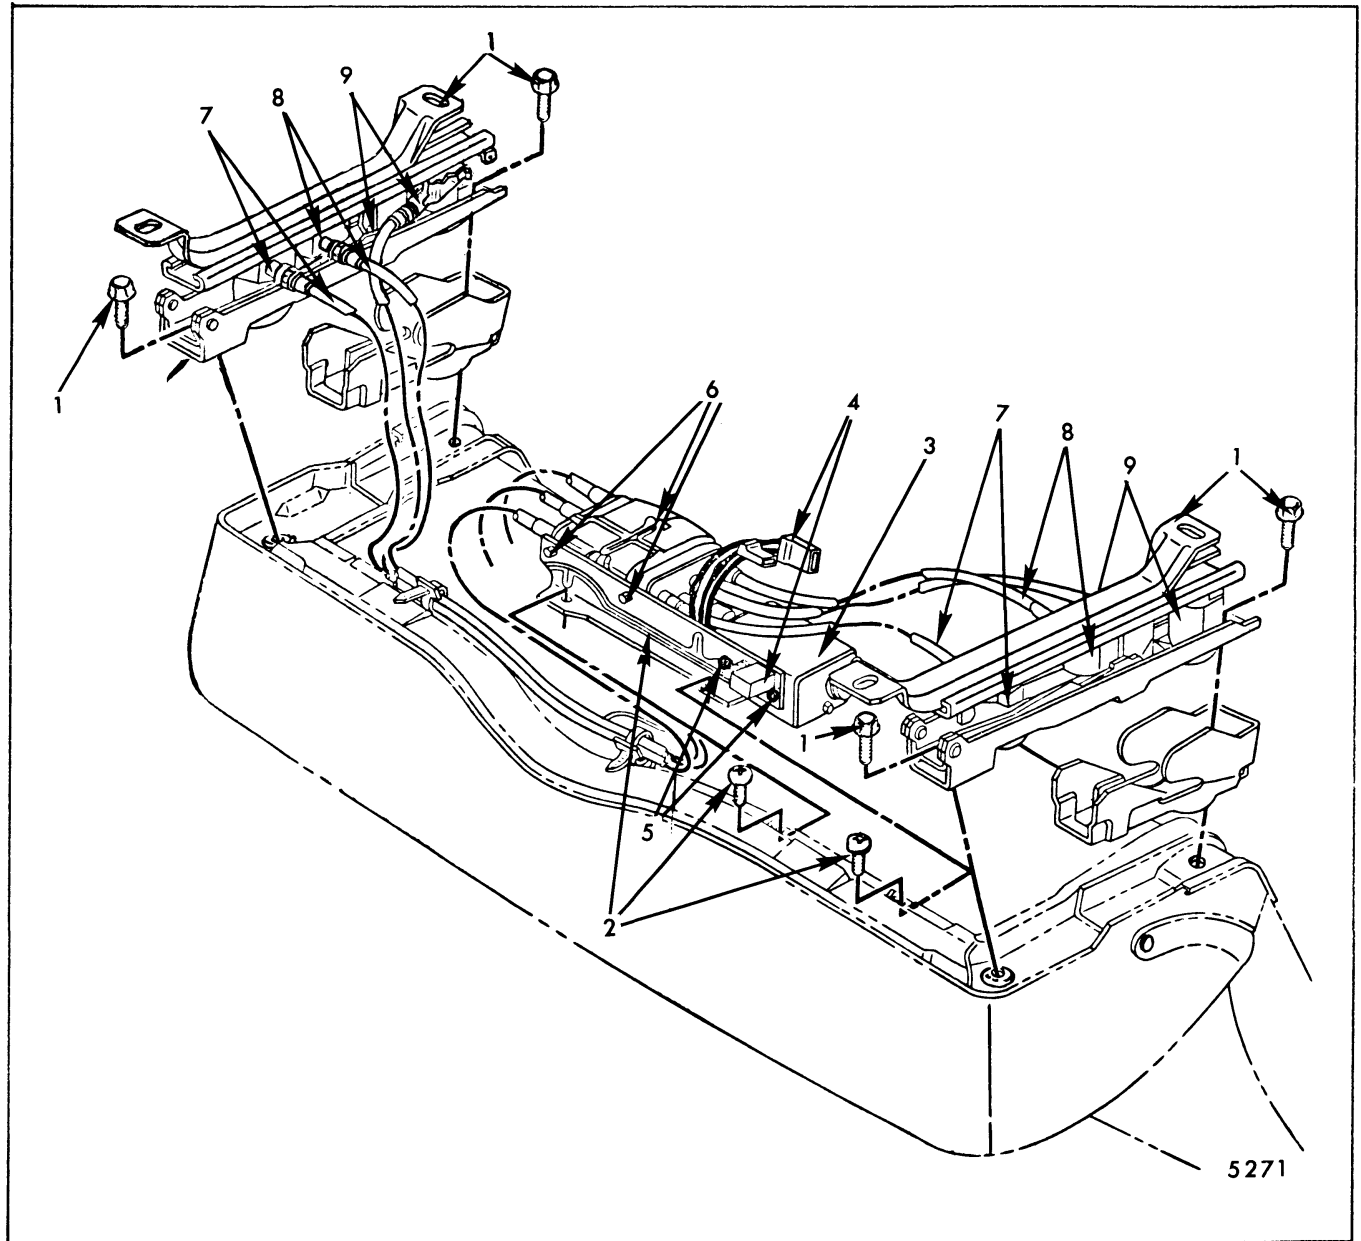

Fig. 9-16-Power Operated Six-Way Seat Adjusters, Motor Transmission and Drive Cables - Full Width Seats
2. Disconnect motor feed wires from motor control relay (Figs. 9-16 and 9-17).
3. Remove motor and transmission support-to-seat frame attaching bolts (Figs. 9-16 and 9-17).